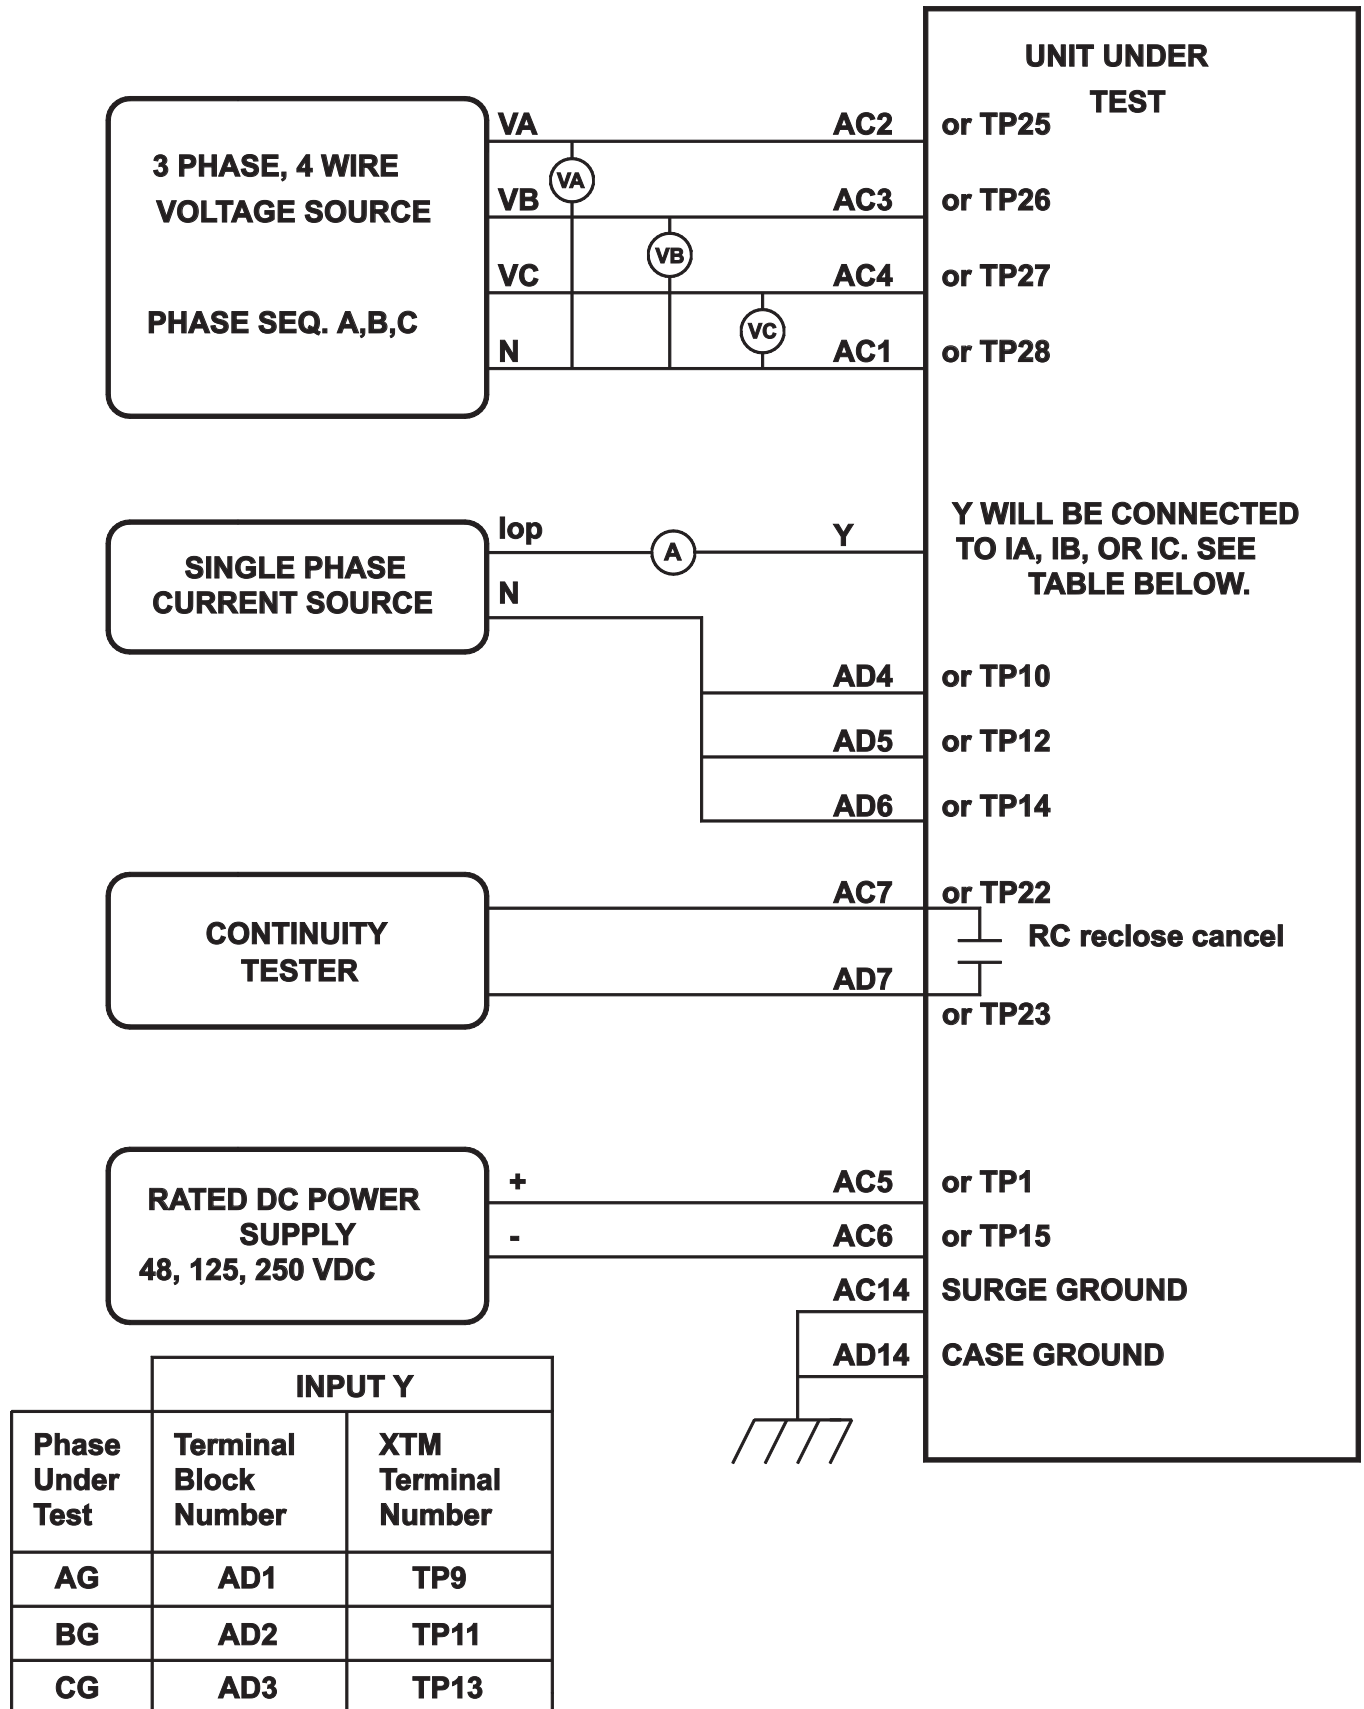

Figure 4-3. (0286A4825, sh. 3) Phase-to-ground test connections.
1. Connect the relay as shown in Figure 4-3.
5. Set Iop to 1.0 amp rms for phases IA, IB, or IC, as shown by the Y connection point in Figure 4-3.
2. Connect the relay as shown in Figure 4-3.